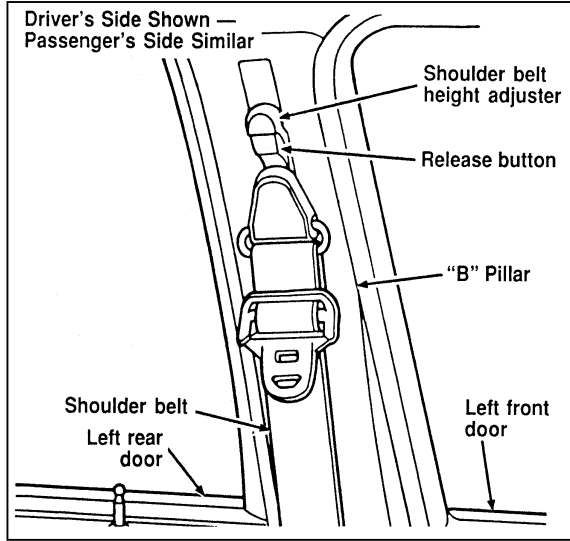

Figure 1 — The shoulder belt height adjuster
You can adjust the shoulder belt height to one of five (5) positions. To adjust, pinch the release button (see Figures 1 and 2) and slide it up or down until the belt rests across the middle of your shoulder. Release the button and make sure the adjuster is firmly in one of the five (5) positions.